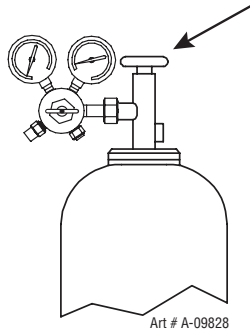

Figure 3-3: Open Cylinder Valve
8. Slowly and carefully open the cylinder valve (Figure 3-3) until the maximum pressure shows on the high pressure gauge.